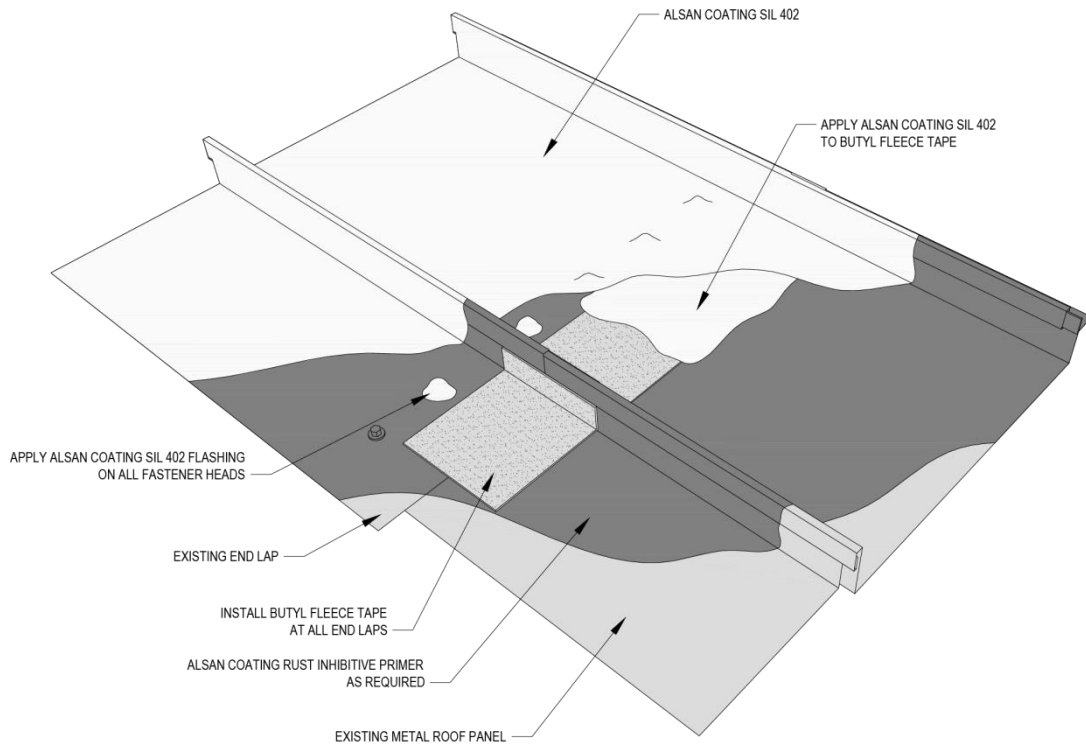

Figure 2.1m Silicone Roof Coating Over Standing Seam Metal, Side/End Laps
- Refer to flashing detail guidelines indicated in Figures 2.1m through 2.1p.